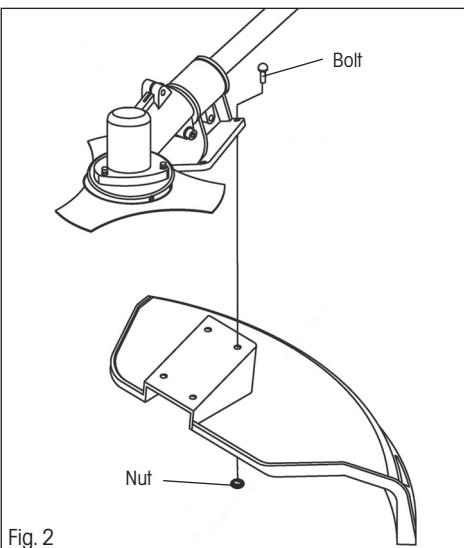

Fig. 2
- ❖ Install the protective guard on to the shaft using the supplied screws and nuts (see fig. 2)